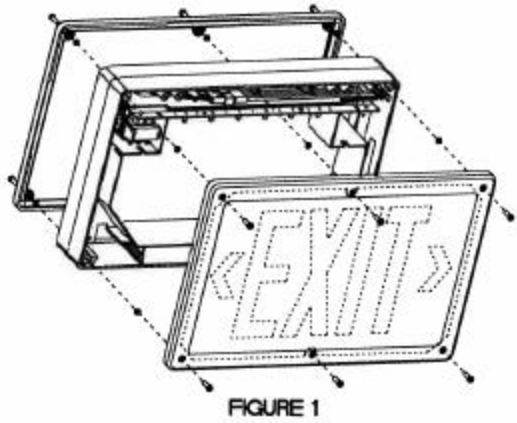

FIGURE 1
1. Remove the front and back panels of sign by removing the screws from each panel (see figure 1).